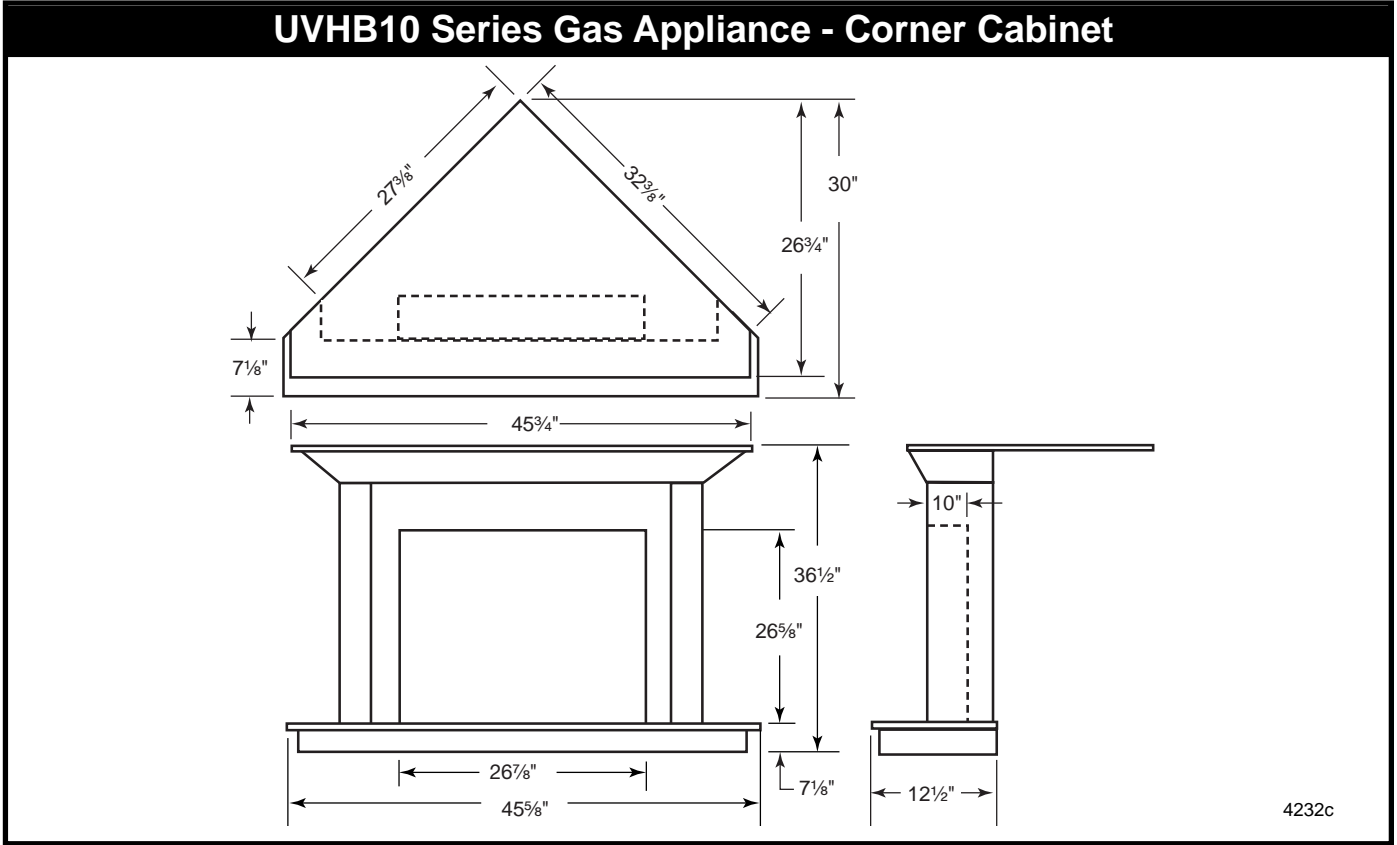

Fig. 1 UVHB10 Series FPS1213N dimensions.
2. Place the heater on the hearth base centering side to side and 3/4" from the back edge of the hearth base (Fig. 1)
3. Bend the lower mounting tabs down against the hearth base and secure with two (2) wood screws (Fig. 1)